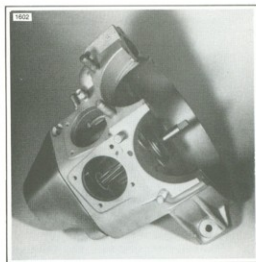

Figure 3-36. Line Reaming Cover Bushing
4. To ream pinion shaft bushing, insert reamer pilot in right crankcase roller race as shown in Figure 3-36. Insert 9/16 in. PINION SHAFT COVER BUSHING REAMER, Part No. HD-94805-57, through pilot and push into cover bushing until it bottoms, then give reamer one complete turn to size bushing.
3. See Figure 3-34. Make sure that chamfer on oil pump pinion shaft gear (27) faces toward the inside. Tighten pinion gear shaft nut (23) to 35–45 ft.-lbs. Make sure that gear shaft pinion spacer (26) has noticeable end play. Breather, cam and pinion gears contain timing marks which must be aligned or matched as shown in Figure 3-36. Rotate gear train and note if it revolves freely. A bind indicates gears are meshed too tightly.